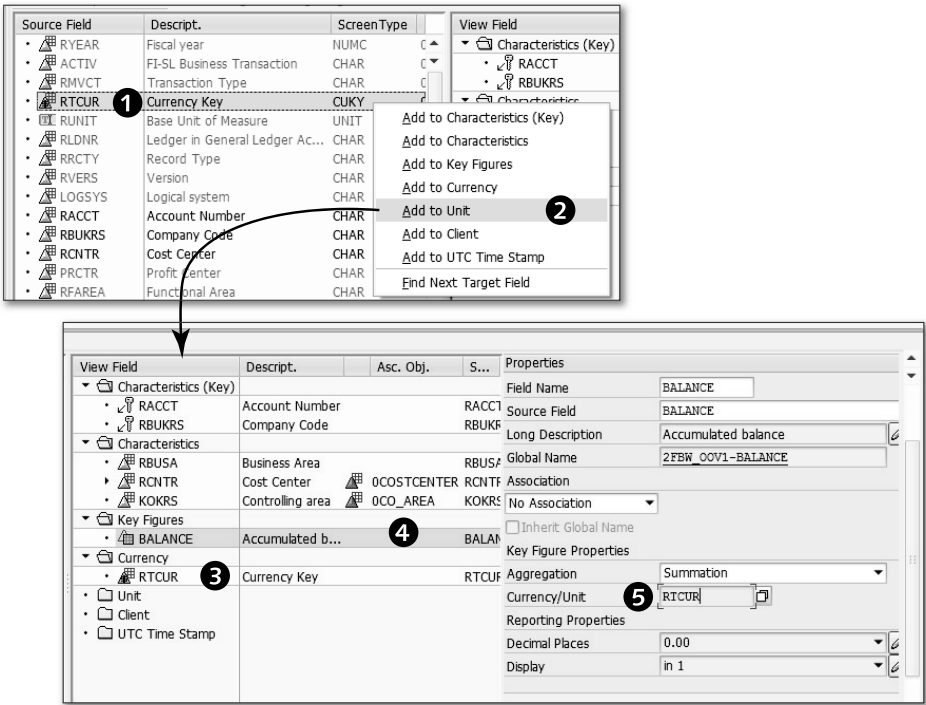

Figure 6.86 Adding to the Unit
First, you need to add the field for unit under the VIEW FIELD section. For key fig- ure BALANCE, the field associated for unit is RTCUR. Select the RTCUR field ❶, and from the context menu, select ADD TO UNIT ❷ as shown in Figure 6.86. This places the unit RTCUR field under the VIEW FIELD section under CURRENCY ❸. Now select the BALANCE field from the VIEW FIELD section ❹. Open the PROPER- TIES section for the BALANCE field, and enter “RTCUR” in the CURRENCY/UNIT field ❺. This action associates the unit RTCUR field with key figure BALANCE.